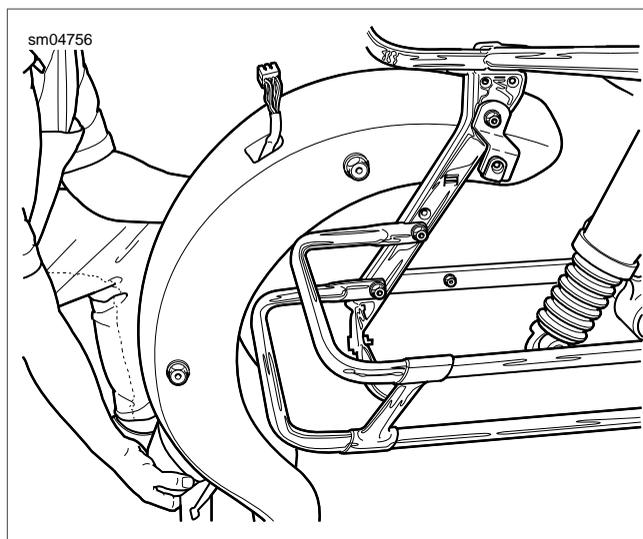

Figure 2-169. Carefully Roll Out Rear Fender
12. Exercising caution to avoid scratching fender paint on luggage rack or other bracketry, carefully roll the fender out. See Figure 2-169. If necessary, have one person spread the saddlebag support brackets while the fender is rolled out.
1. Exercising caution to avoid scratching fender paint on luggage rack or other bracketry, carefully roll the fender in. See Figure 2-169. If necessary, have one person spread the saddlebag support brackets while the other rolls the fender in.